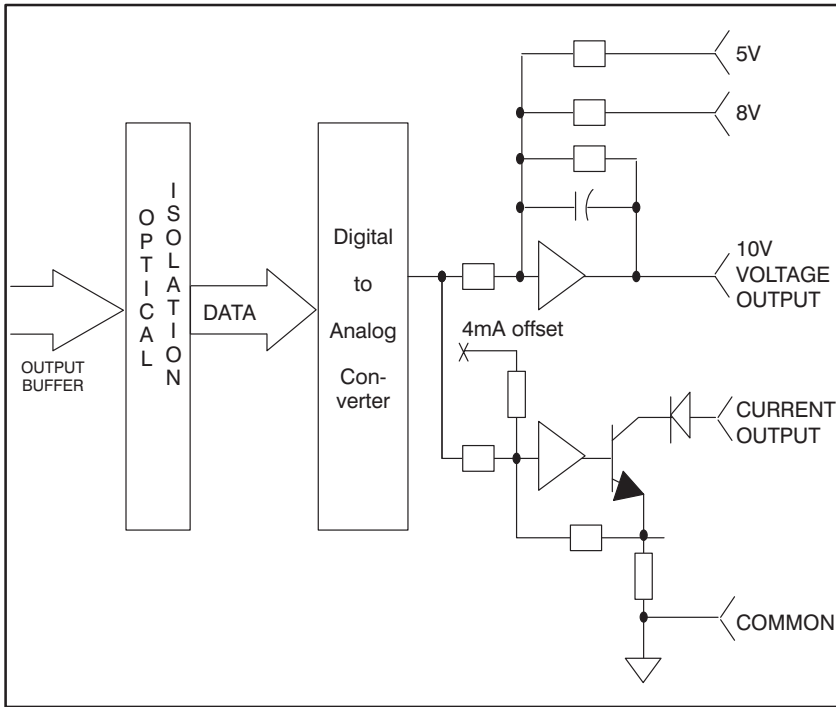

Figure 2.1 - Typical Output Circuit
- Figure 2.1 - Typical Output Circuit ..... 2-2
Each output circuit consists of three operational amplifiers. The first amplifier provides the voltage output. Jumpers are provided on the terminal strip to select an output range of 5, 8, or 10 volts. Current limiting is provided to protect the device against short circuits. A capacitor in the feedback path of this amplifier serves as a first order low pass output filter where the break frequency is approximately 100 hz. The other two amplifiers are used to generate the 4-20 ma current output. A circuit diagram is shown in figure 2.1.